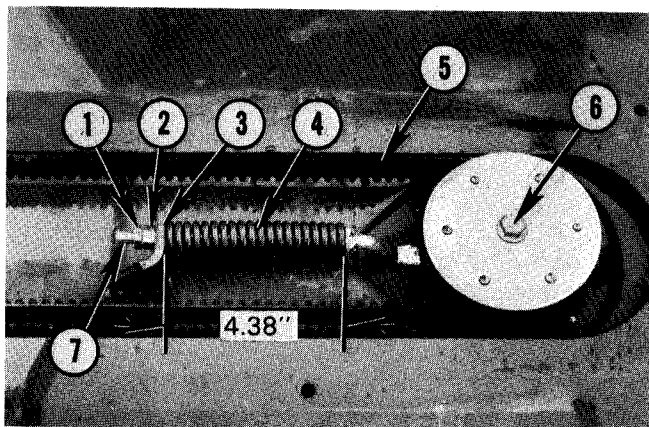

Fig. 59 — Belt Adjustment
1. Remove belt covers and measure length of spring, No. 4, Fig. 59. If measurement is not 4.38" adjustment is necessary.
4. Loosen nuts, Nos. 1 and 2, Fig. 59, completely which will allow springs, No. 4, to move spindles outboard to tension belts.
6. Again check length of spring. If measurement is less than 4.38" remove washer, No. 3, Fig. 59. If measurement is more than 4.38" add washers between spring and anchor bracket until spring length is correct.